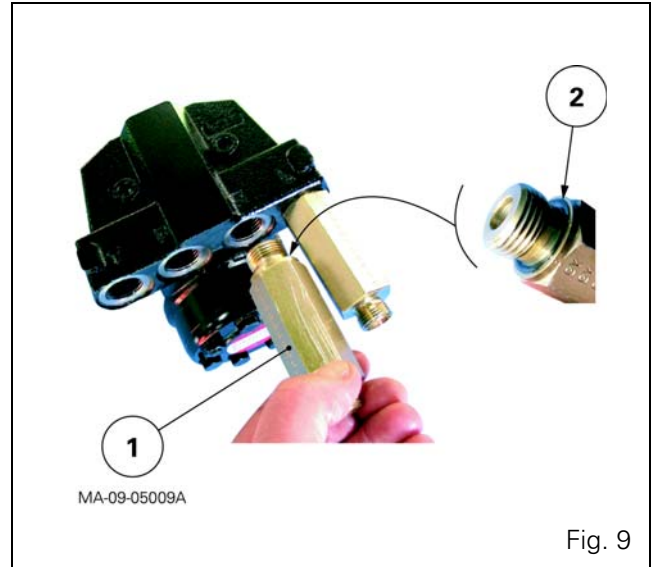
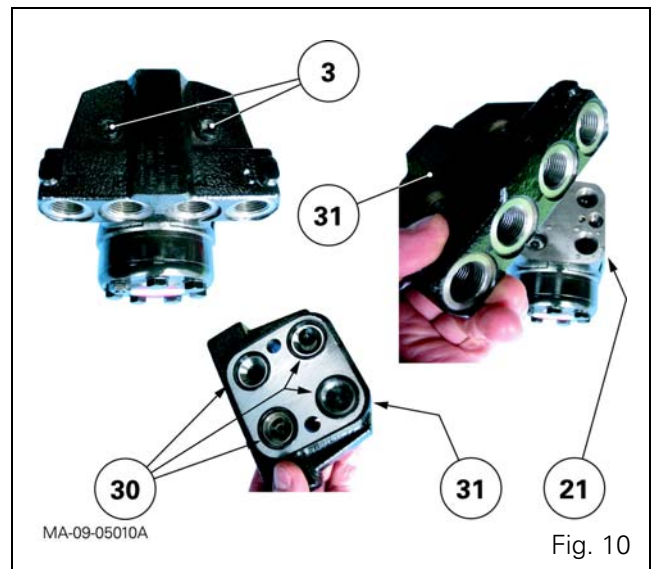

Fig. 9
Fig. 10
2. Remove the jaws (1) if necessary (Fig. 9). Take out the screws (3). Split the manifold (31) from the spool valve (21) (Fig. 10).
3. Collect the seals (2) and (30) (Fig. 9 and Fig. 10).
4. Take out the screws (1). Carefully mark the location of the screw (2) and then remove it.
5. Remove the closing plate (4), O'ring (5), stator (6) and O'ring (8).
6. Remove the spacer (10), the rotor (9), the distributor plate (29) and the O'ring (28).
7. Take out the splined link shaft (11).
8. Unscrew the threaded ring and take out the valve ball from the non-return valve (22).
9. Take out the two pins and valve balls from the suction valves (23) of the steering unit.
10. Extract the sleeve (27) and spool valve (25) assembly by pushing it out while checking that the pin (7) lies along the horizontal axis.
11. Remove the washers (12) and (16), the needle bearing (14) and the bush (24) from the sleeve / spool valve assembly.
- the manifold (31) on the steering unit (21) (Fig. 10) (screws tightened to 60 Nm);
- the sleeves (1) on the manifold (Fig. 9).